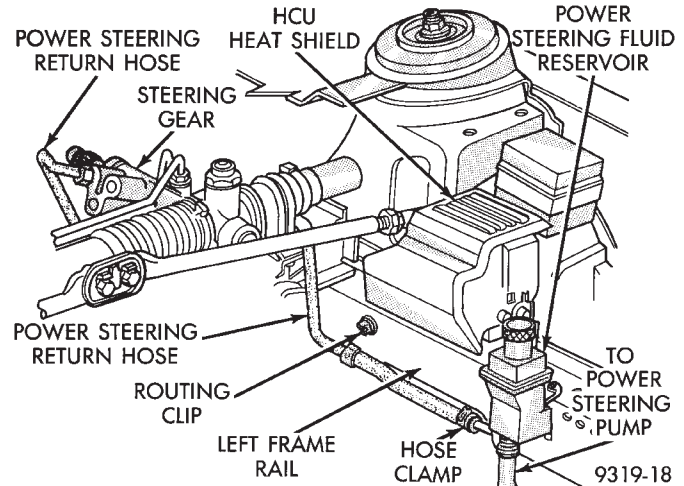
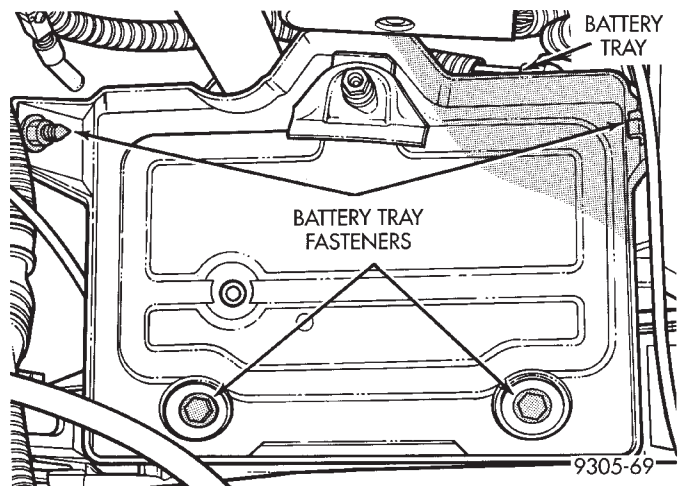
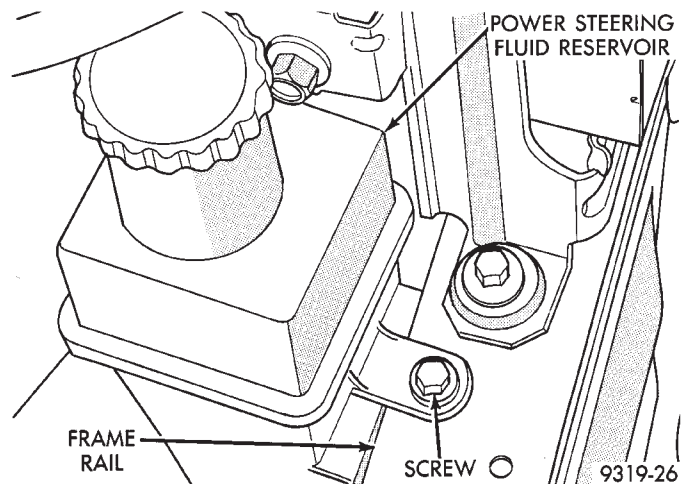

Fig. 33 Power Steering Fluid Reservoir Hoses
Fig. 34 Battery Tray Mounting
Fig. 35 Power Steering Fluid Reservoir Attaching
(1) Raise vehicle on jackstands or centered on a frame contact type hoist. See Hoisting in the Lubrication and Maintenance section of this manual, for the required lifting procedure to be used for this vehicle.
(2) Remove the power steering return hose (Fig. 33) from the side of the power steering fluid reservoir. Remove hose from bottom of power steering fluid reservoir going to power steering pump (Fig. 33). Let power steering fluid drain from hoses and reservoir.
(3) Lower the vehicle to the ground.
(4) Remove battery.
(5) Remove the 4 fasteners (Fig. 34) attaching the battery tray to the body and frame of the vehicle. Then remove the battery tray from the vehicle.
(6) Remove the screw attaching the power steering fluid reservoir to the frame rail (Fig. 35). Then remove the power steering fluid reservoir from the frame rail.
(1) Install power steering fluid reservoir on frame rail. Be sure tab on bottom of fluid reservoir is inserted in hole on frame rail. Install screw (Fig. 35) attaching the power steering fluid reservoir to the frame rail. Tighten the attaching screw (Fig. 35) to a torque of 7 N·m (60 in. lbs.).
(2) Install battery tray back in vehicle. Install and securely tighten the 4 fasteners attaching the battery tray to the frame rail and body.
(3) Raise vehicle.
(4) Install the power steering return hose onto the nipple on the side of the power steering fluid reservoir (Fig. 33). Install the hose going to the power steering pump, on the bottom nipple of the power steering fluid reservoir (Fig. 33). Install the hose clamps, being sure they are past hose retention beads on reservoir nipples.
(5) Lower vehicle.
(6) Install battery.